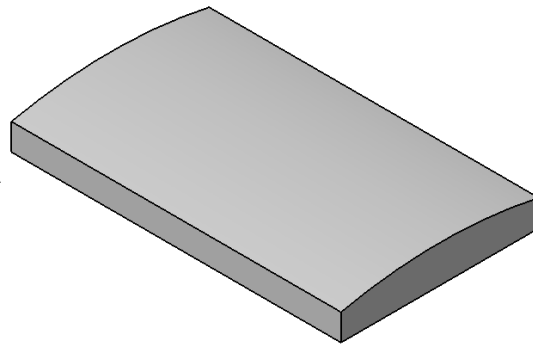

Figure 6-93 The model after creating the base feature
4. Select the **Mirrored extent** check box and choose the **OK** button from the **Pad Definition** dialog box. The model, after creating the base feature, is shown in Figure 6-93.